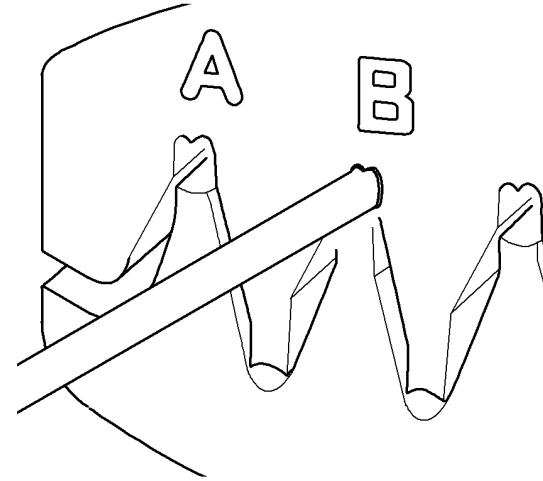

Figure 4 Crimping the insulated grip.
4. **Figure 4.** Insert the crimped terminal into the appropriate position of the crimp tool and close the crimp tool to firmly fasten the insulation of the wire in the cable grip of the terminal.